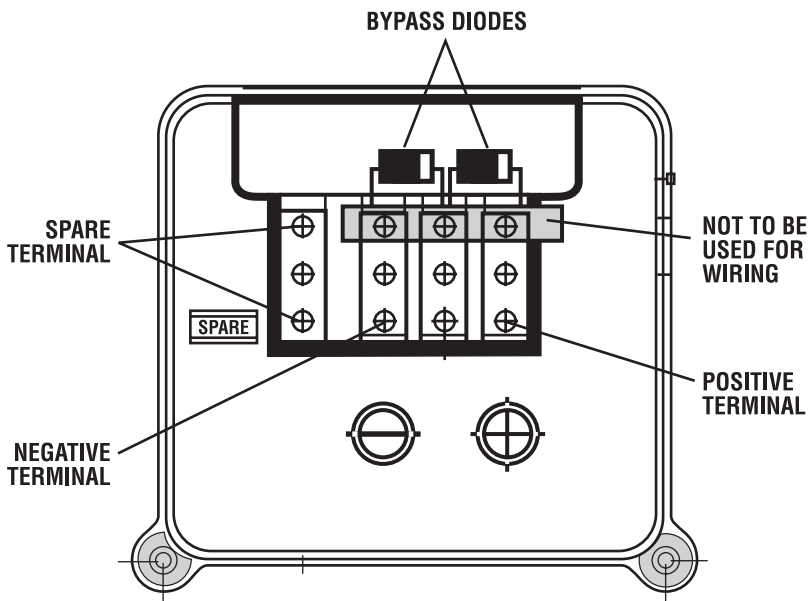

Figure 2. Junction Box Components
- Diodes can be easily replaced in the field if necessary. Use only Super Barrier type diodes SBR10U45SD1, 45V, 10A or equivalent. Diodes should be installed as shown in Figure 2.
- The electrical connection block has three (3) double screw terminals; positive (+), negative (-) and spare. It is recommended that the top screws of the terminals be reserved for the bypass diodes, and the output wiring be connected only to the bottom screws. Junction box components are described in Figure 2.